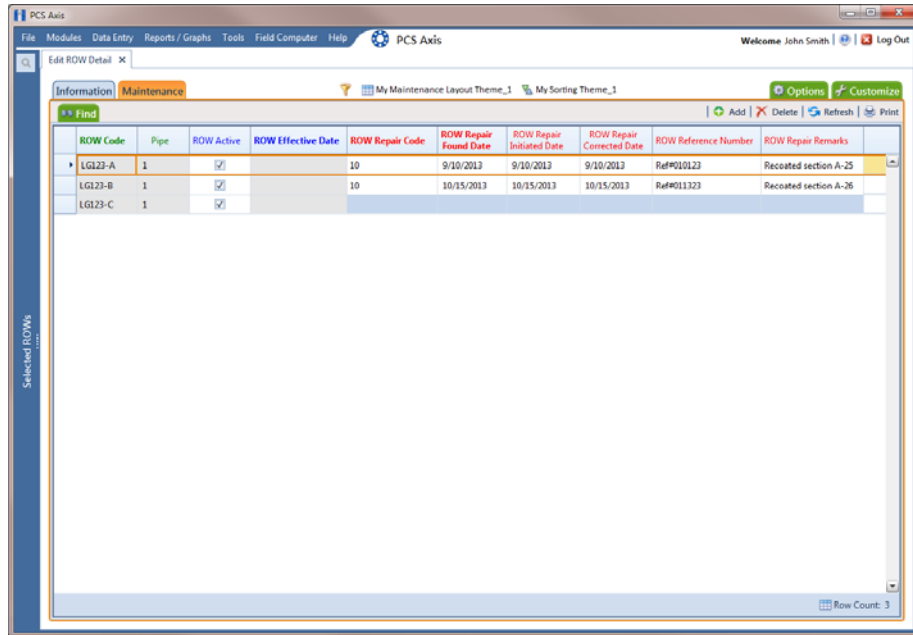

Figure 4-18. Maintenance
- 2 Open *Edit ROW Detail*. Click **Data Entry** > **Edit ROW Detail** (Figure 4-18, page 145).
- Click the **Maintenance** tab **Maintenance** to open the *Maintenance* grid (Figure 4-18).